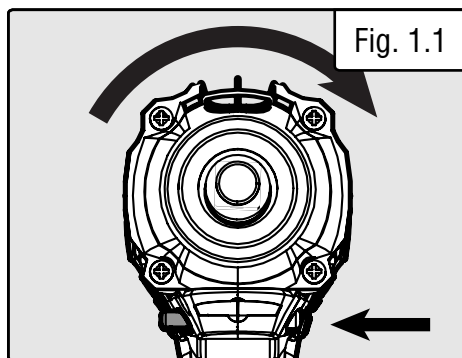

Fig. 1.1
2. Use the direction selector switch (Fig. 1.1 - 1.3) to select the direction of rotation. Push the switch to the left for counterclockwise rotation and to the right for clockwise rotation. The center position will engage the trigger lock. See figures below for switch positioning.